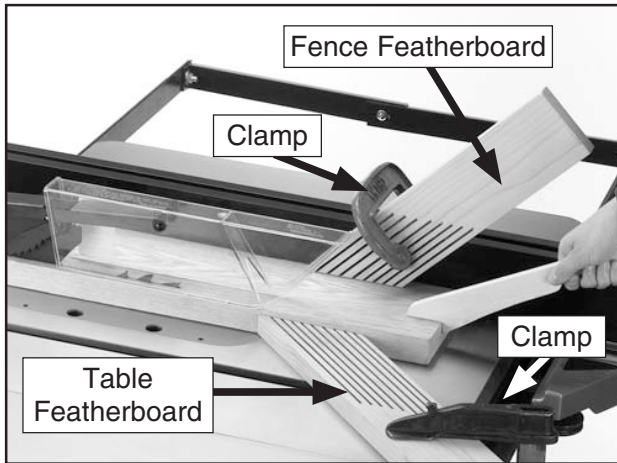

Figure 95. Example of featherboards secured with clamps.
3. Place a featherboard on the table away from the blade so all fingers point forward and contact the workpiece (see **Figure 95**).
6. Mount a second featherboard to the fence with another clamp (see **Figure 95**), then repeat **Step 5** to ensure it is secure.